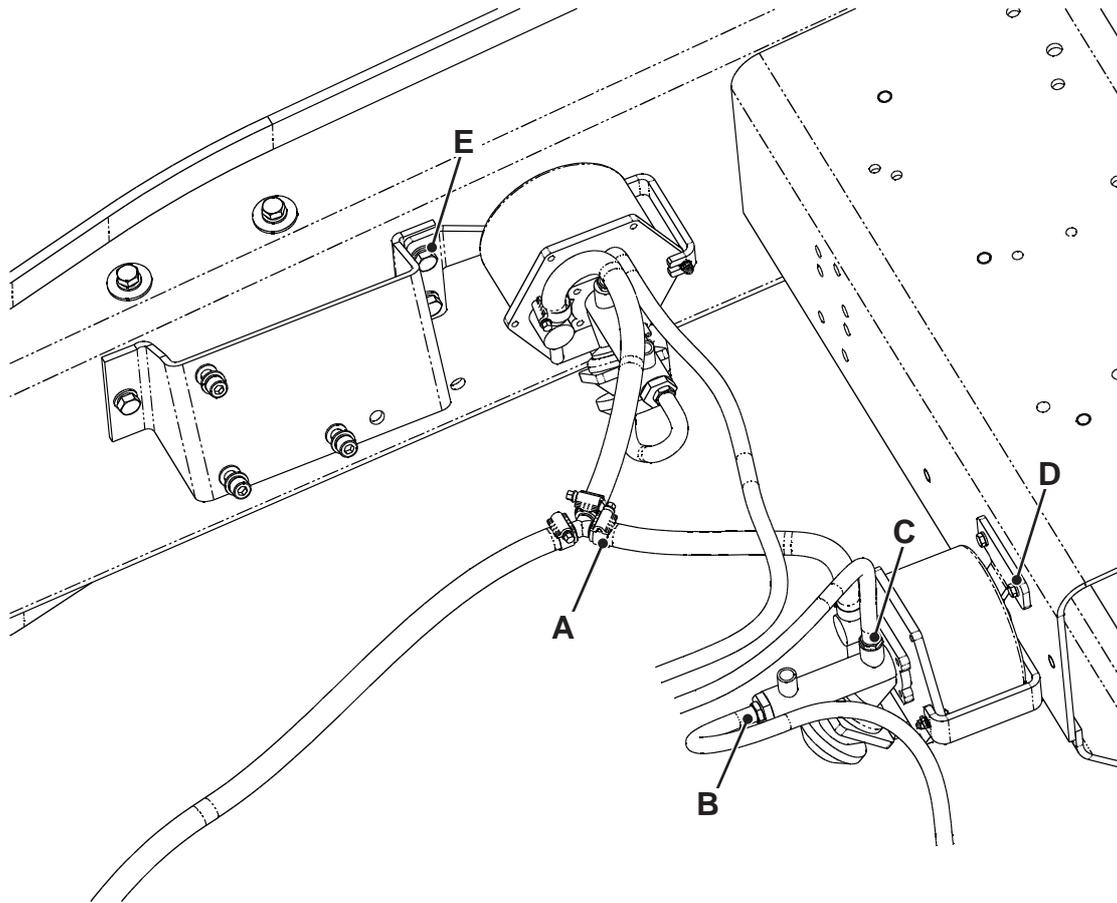

Fig 37. Remotely Mounted Servo Units
- 1 → Fig 37. (□ G-58). Working beneath the machine, undo the clip **A** and pull off the vacuum hose.